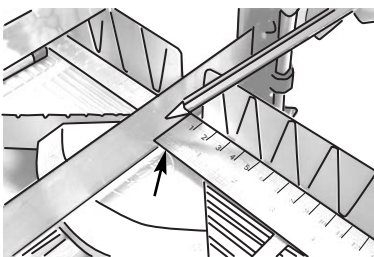

fig. 3 Position ruler against blade.
3. To position the measuring system in exactly the correct position we must calibrate the scale. To do this, first place the saw blade at the 90° position as marked on the front of the saw. See fig. 3.